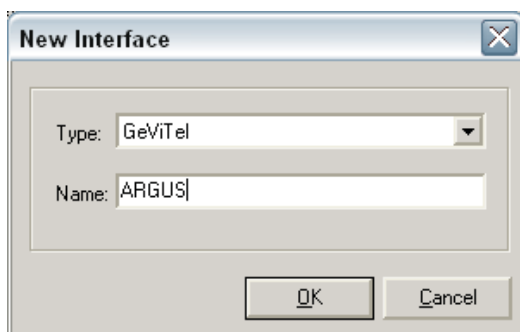

Figure 8-7: Dialog box "New interface"
- You are requested to enter the interface type and to provide a name for it. Select "GeViTel" as the interface type. In the context of the example configuration, the name "ARGUS" was chosen (figure 8-7).